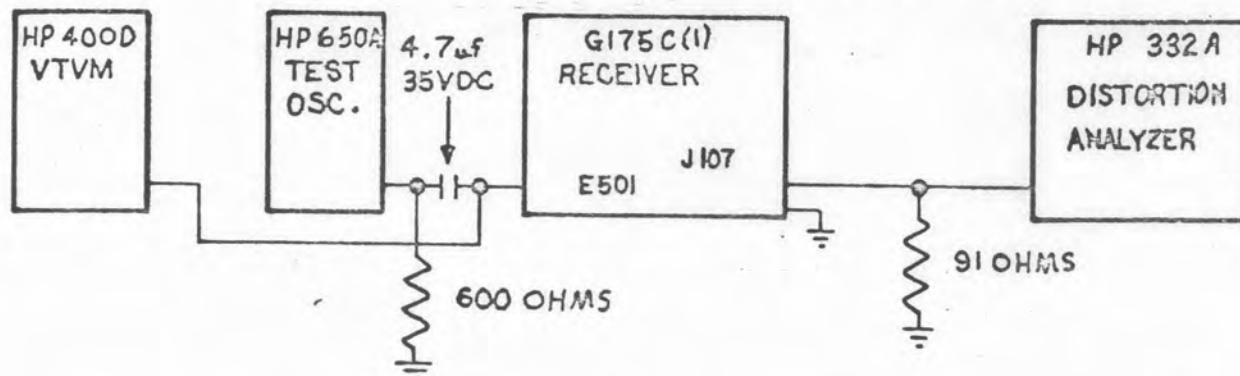

Figure 5-27
- a. Connect equipment as shown in figure 5-27.